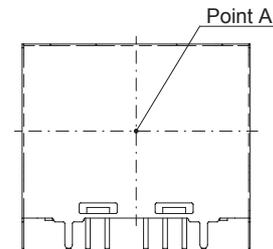

Fig.7.9 Temperature Measuring Point in the case of Forced Air Cooling
■ In the case of forced air cooling (1m/s), please have sufficient ventilation to keep the temperature of point A in Fig.7.9 at 100°C or below.